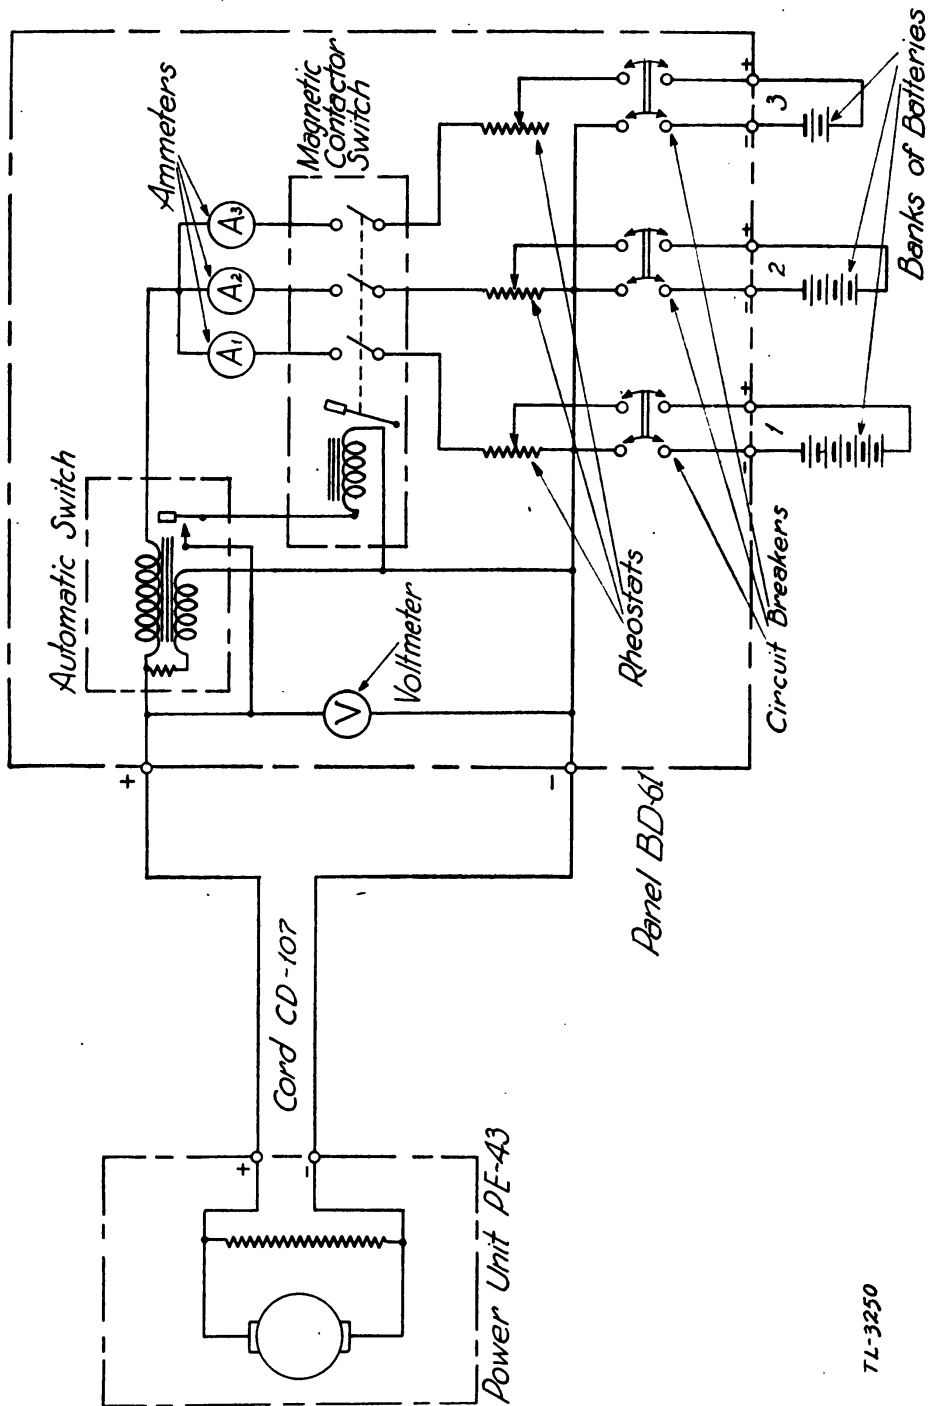

FIGURE 16.—Charging set SCR-169—circuit diagram with batteries.
(2) Inspect all batteries in each bank to see that they are properly connected to each other.
(3) Connect the positive and negative leads from each bank of batteries to the respective + and — binding posts on the switch or switches selected. A circuit diagram of battery connections is shown in figure 16.
(4) Start the power unit.
(5) Turn all rheostat handles completely to the right.
(6) Close the battery switches or circuit breakers in use.
(7) Note the voltmeter and ammeter readings.
(8) Increase or decrease the charging current or currents to the proper rate by adjusting the rheostat or rheostats in series with the ammeters in use. Do not charge batteries at a rate exceeding 7½ amperes.
(9) Never charge more than six nor less than two batteries BB-29 or their equivalent on any one charging circuit.
(c) The automatic switch controls the energizing circuit of the magnetic contactor switch in the following manner: The former closes the latter when the generator voltage reaches 40 volts; and opens it when the generator voltage falls below 32 volts, when the generator voltage fails, or when the current is reversed and flows from any one of the banks of batteries into the generator (fig. 16).